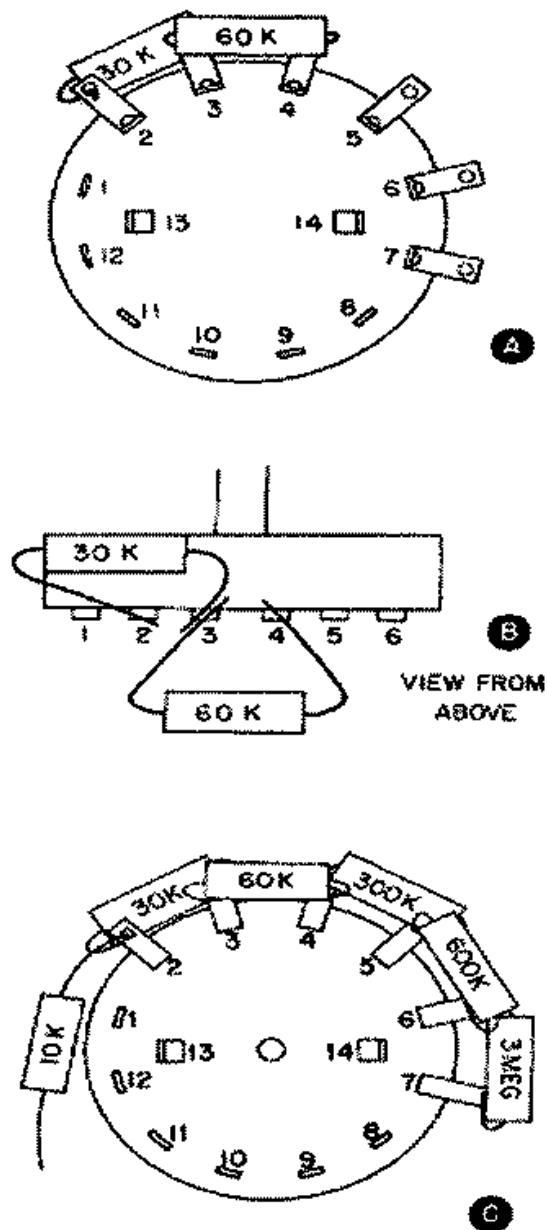

Figure 11 - (A) and (B) How to position the resistors in the range switch terminals; (C) Placement of the resistors connected to terminals 2, 3, 4, 5, 6, and 7.
When you have gathered these parts together, proceed with the following steps. When wiring the resistors to the switch terminals keep the leads short and the body of the resistor close to the terminals. However, do not let the body of a resistor touch other resistors, terminals or the metallic part of the switch. Use Figs. 11 and 12 to see how to position and wire the resistors. Before performing a step, read through the entire step to be sure you understand it. Check off each step as soon as you finish it, so you won't skip any.
- ( ) Position the range switch as shown in Fig. 10A. Notice that the terminal numbers shown in the figure do not appear on the switch. You can position the switch either of two ways and it will be like it is shown in Fig 10A. Either way is permissible. Only after you bend down the proper terminals will the terminal numbers, shown in Fig. 10B, apply to your switch. Bend down terminals 2, 3, 4, 5, 6, and 7. Bend these terminals out nearly flat, but do not bend them too far as they can touch the metal part of the switch. Position the resistors on the range switch in Fig. 11.